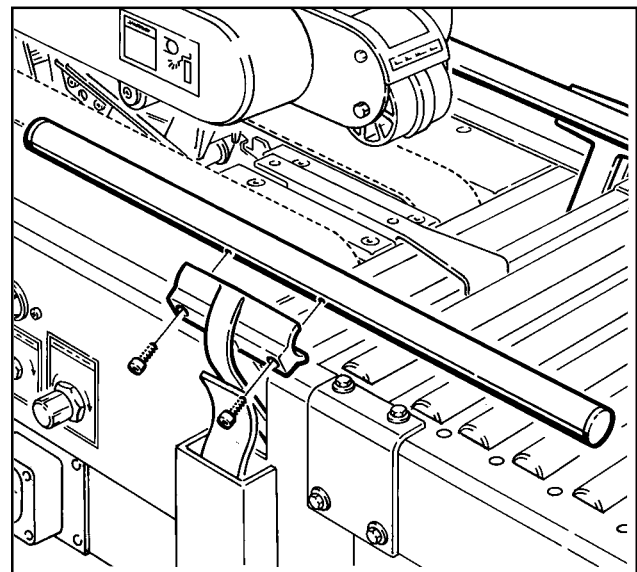

Figure 2-4 – Centering Guides
2. Using a 5 mm hex key wrench, attach the centering guides to the rails with four M6 x 20 screws (two in each guide) as shown in Figure 2-4.